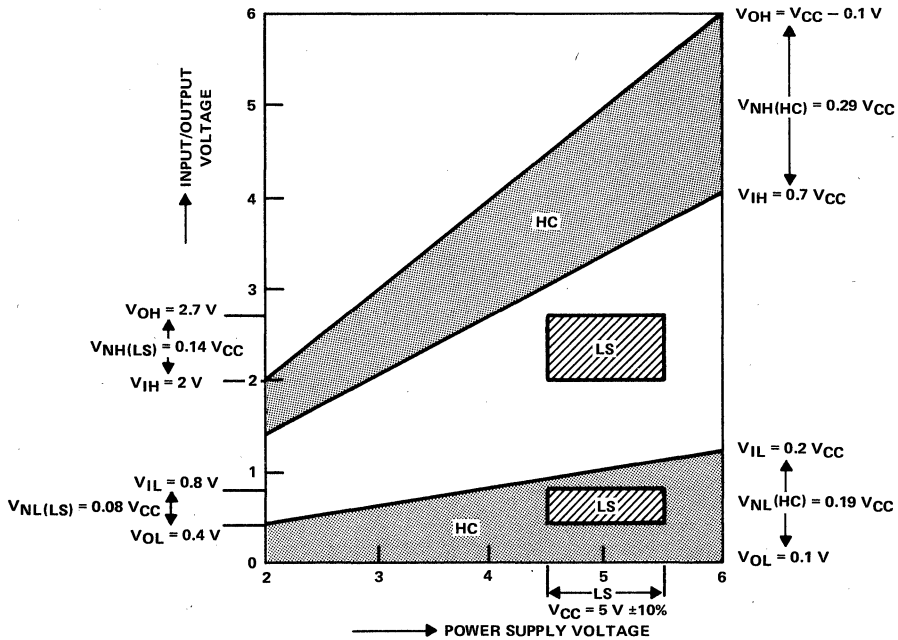

Figure 12. High-Speed CMOS and LS Noise Margins
- Improved noise immunity over bipolar devices is due to the rail-to-rail (V_{CC} to ground) output voltage swings. Figure 12 illustrates the noise immunity provided by the high-speed CMOS family as it compares to the LSTTL family. This noise immunity makes it ideal for high-noise environments. Minimum and maximum output voltages are guaranteed at 4 mA (6 mA for high-current devices). If the output currents exceed these limits, the noise immunity will be impaired. 'HCT' devices have similar input noise margins to LSTTL because their inputs are TTL-voltage compatible. The outputs of 'HCT' are the same as standard 'HC' outputs.